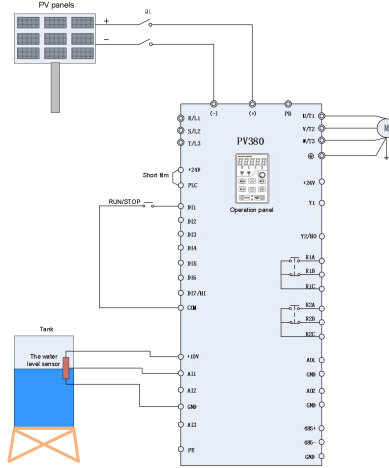

Figure 3-1 PV380 series
1. Please wirings as Figure3-1 according to different inverter powers, check and confirm the wirings to be correct, and then close Q1.